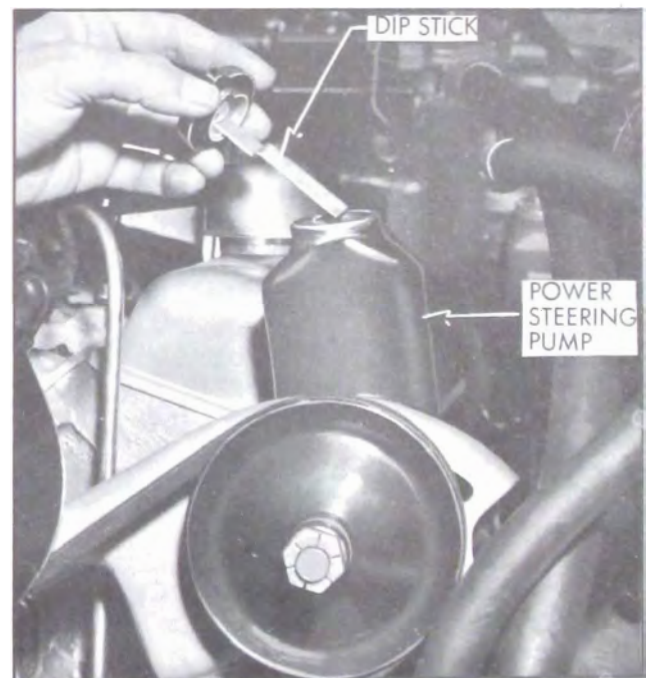

Figure 1-11—Power Steering Pump Reservoir
11. Power Steering Gear. Thoroughly clean dirt from reservoir cap on top of oil pump, then remove cap. Wipe dip stick and reinstall cap to check oil level. Add oil to maintain level between “FULL” and “ADD” marks on dip stick with system warmed up. See Figure 1-11.